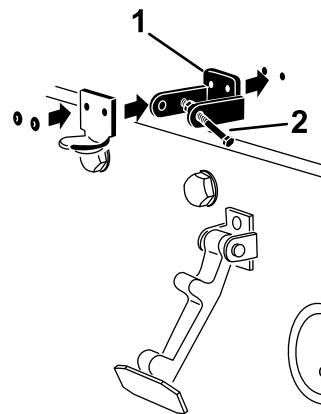

Figure 4
5. Rivet the brackets and the washers to the hood (Figure 4).